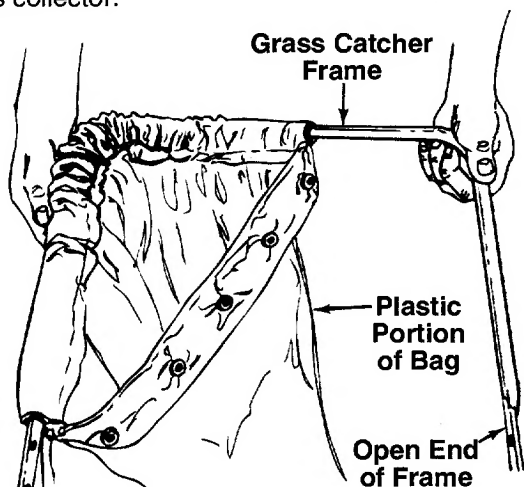

FIGURE 3.
1. Feed frame into the channel on the fabric portion of the grass catcher bag as shown in figure 3. The plastic portion of bag goes toward the open end of frame.